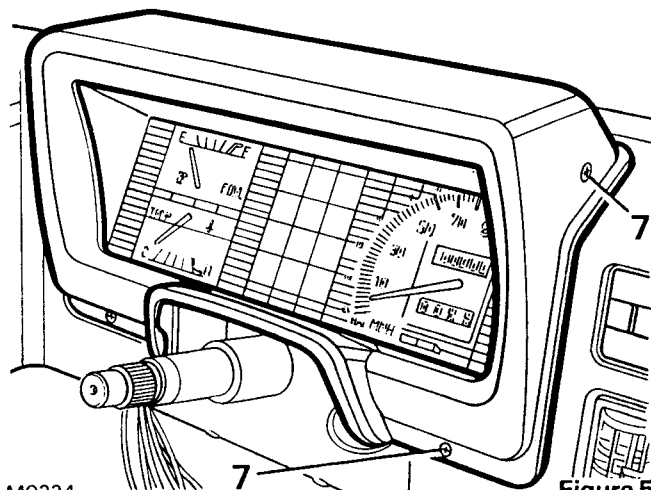

Figure 5
7. Remove four retaining screws and lift binnacle cover from fascia, see Figure 5.